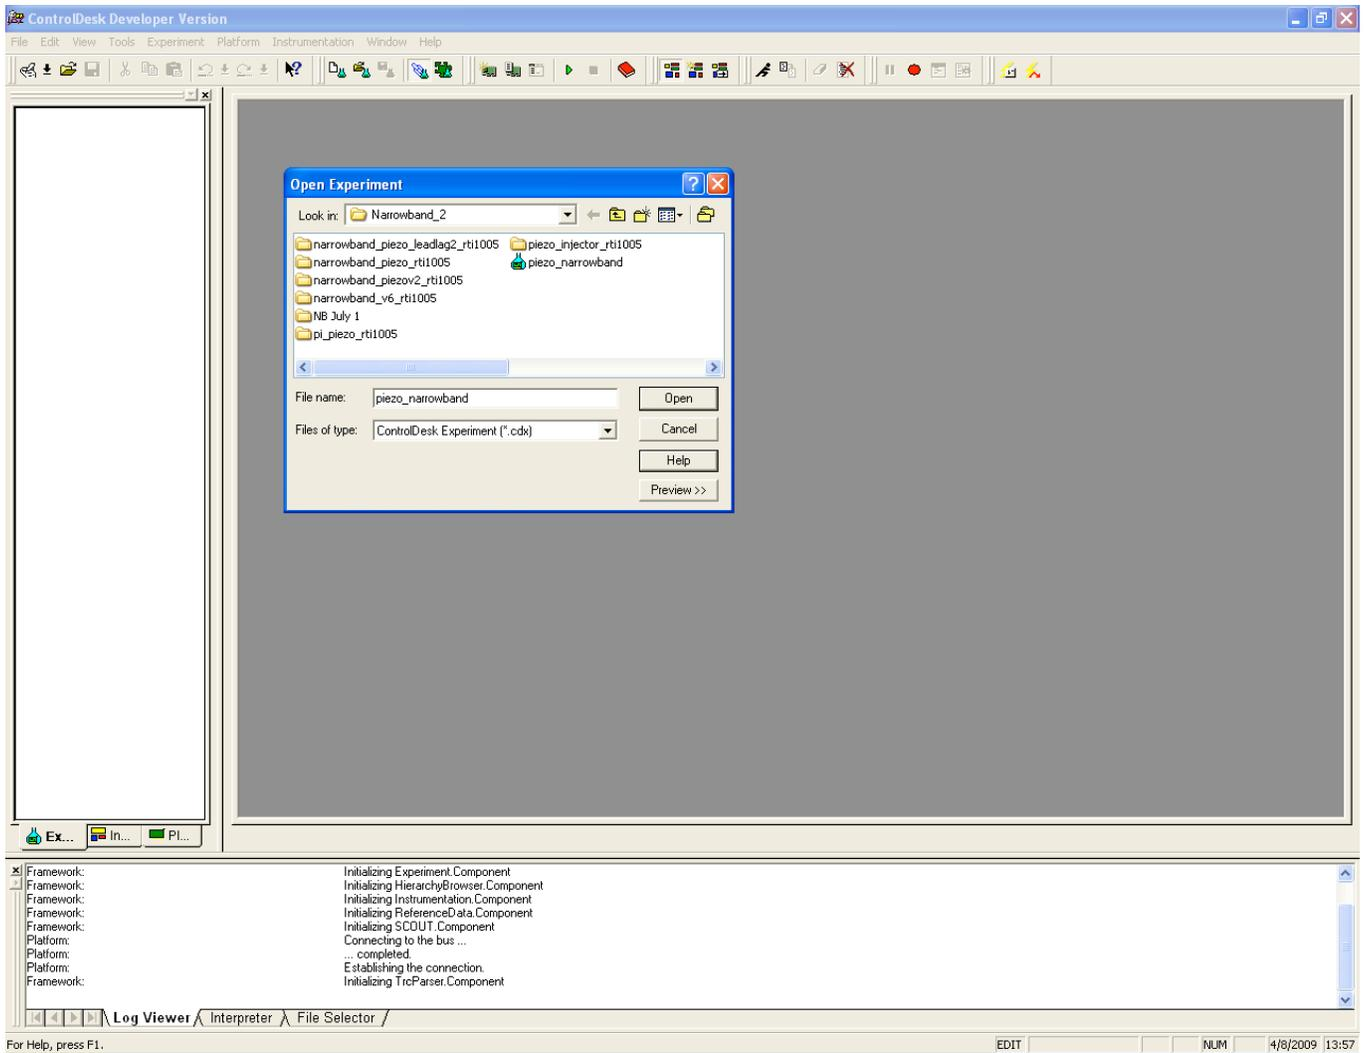

Figure 4-30: Screenshot of the Control Desk window and “Open Experiment” window
- 2) Check that there are no errors and that the RTI has loaded by viewing the commands listed in the “Log Viewer”. See Figure 4-30.
- 4) Select the correct experiment that is associated with the Simulink file loaded; the dSpace Control Desk file is dependent on its corresponding Simulink file. See Figure 4-30.